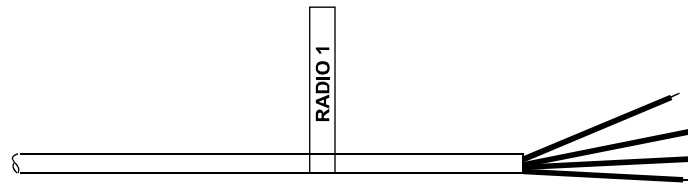

Figure 4: Correct use of cable labels
- q Using the provided cable labels, label the cable once it is through the fitting and inside the Master Station (**Figure 4**).
- q Using the provided cable labels, label the cable once it is through the fitting and inside the Master Station (Figure 4).